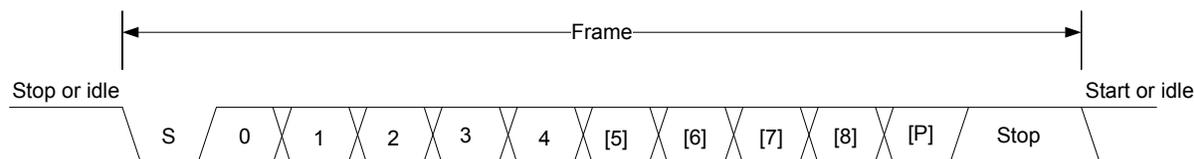

Figure 20.2. Frame Format
The frame format used in asynchronous mode consists of a set of data bits in addition to bits for synchronization and optionally a parity bit for error checking. A frame starts with one start-bit (S), where the line is driven low for one bit-period. This signals the start of a frame, and is used for synchronization. Following the start bit are 7 to 9 data bits and an optional parity bit. Finally, a number of stop-bits, where the line is driven high that indicates the end of the frame. An example frame is shown in Figure 20.2 Frame Format on page 606.